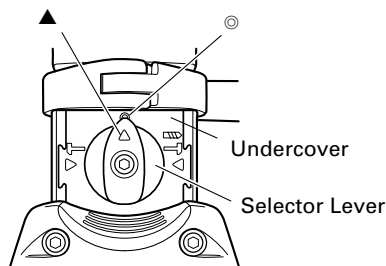

Fig. 8
(2) When fixing working positions of tools such as cold chisel, etc.,
- (a) Pull the selector lever, release lock and turn it. Align ▲ of the selector lever and ◎ of the undercover as illustrated in Fig. 8.